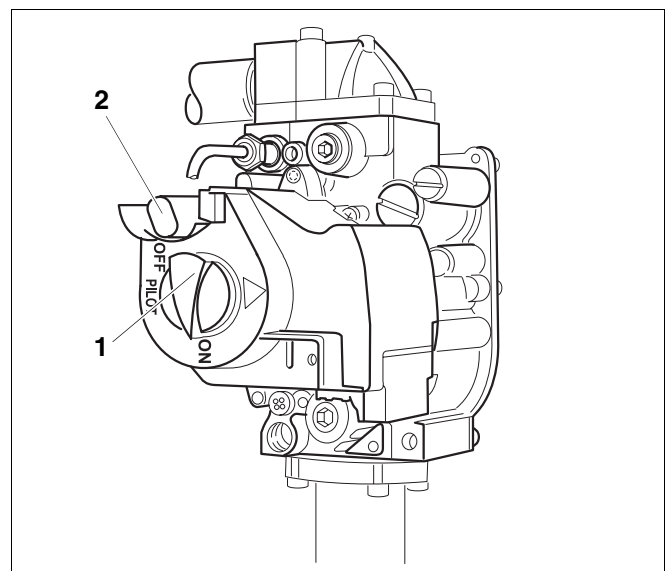

Fig. 7 GC124 SP gas valve
11. After lighting the pilot, keep the red pilot ignition button pressed in for an additional minute (→ Fig. 7).
12. Release red pilot ignition button (→ Fig. 7). The red pilot ignition button should move back and the pilot burner should remain lit. If the pilot burner shuts off, turn the gas control knob back to "OFF", and shut off the main gas supply. Power down the heating system and contact your heating service contractor or gas utility company.
13. Turn gas control knob (→ Fig. 7) counterclockwise to ON position. The gas control knob can only be set to ON if the red pilot ignition button is out (→ Fig. 7).